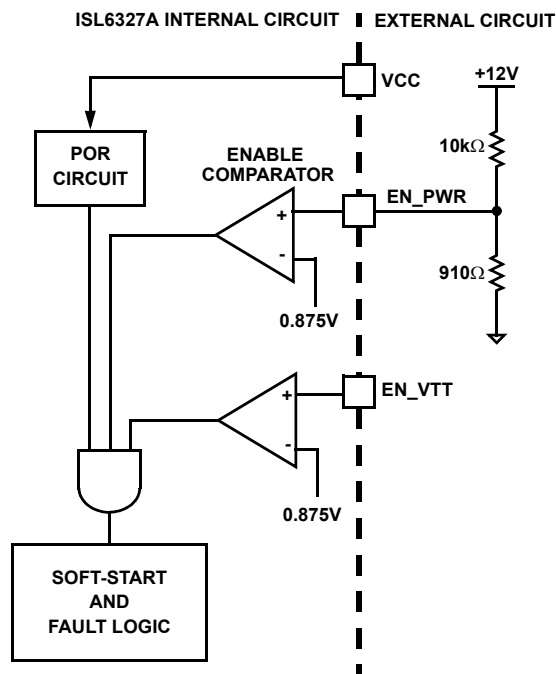

FIGURE 7. POWER SEQUENCING USING THRESHOLD-SENSITIVE ENABLE (EN) FUNCTION
2. The ISL6327A features an enable input (EN_PWR) for power sequencing between the controller bias voltage and another voltage rail. The enable comparator holds the ISL6327A in shutdown until the voltage at EN_PWR rises above 0.875V. The enable comparator has about 130mV of hysteresis to prevent bounce. It is important that the driver ICs reach their POR level before the ISL6327A becomes enabled. The schematic in Figure 7 demonstrates sequencing the ISL6327A with the ISL66xx family of Intersil MOSFET drivers, which require 12V bias.